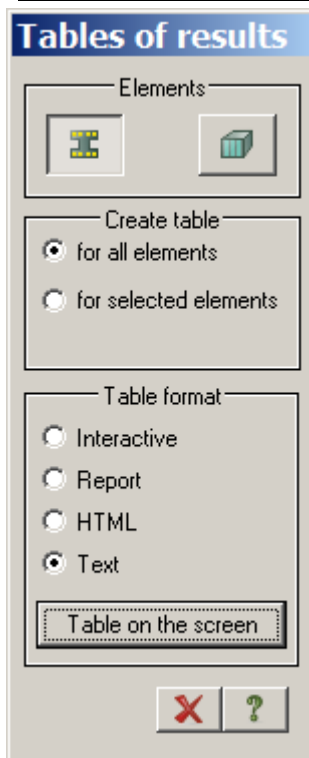

Figure 11.36 **Tables of analysis results** dialog box
- ⇒ In the **Tables of analysis results** dialog box (see Fig.11.36), the following data is mentioned by default: **Reinforcement in bars** option in the **Elements** area, option **For all elements** in the **Create table** area and **Text** option in the **Table format** area.